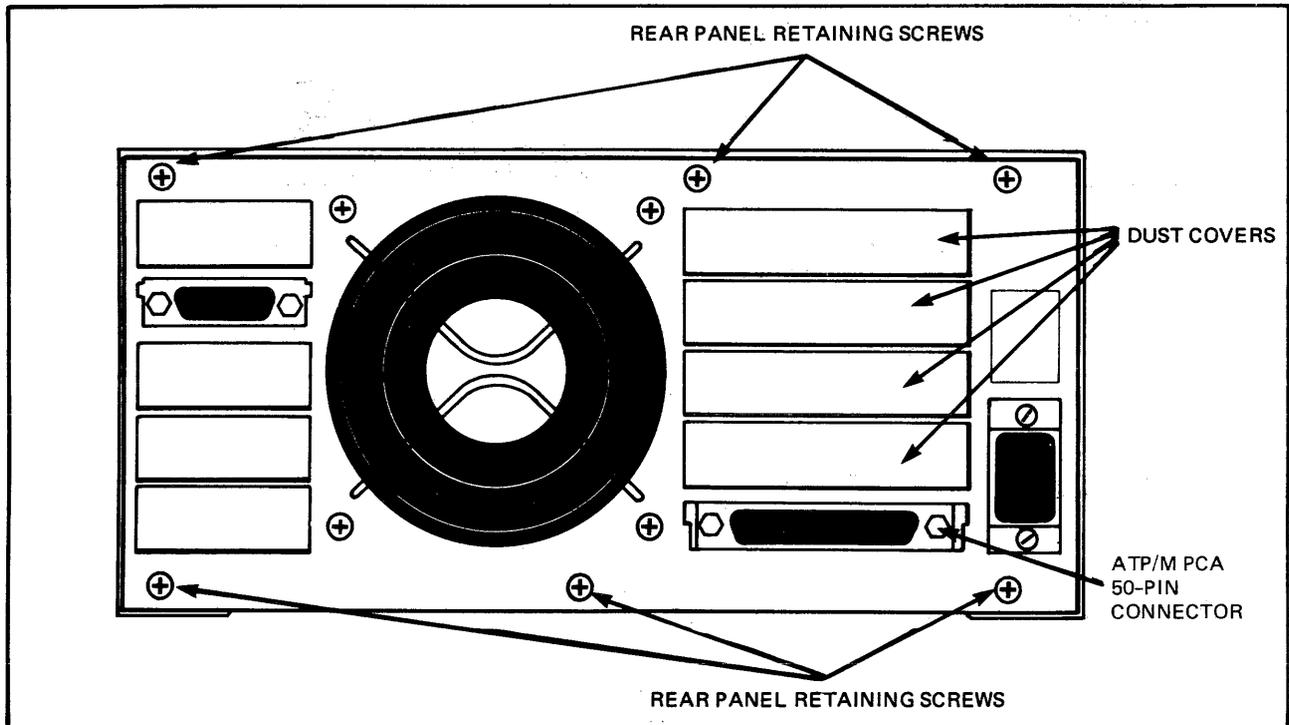

Figure 2-4 MICRO 3000XE and 3000 Series 37 SPU/Extender Rear View
- a) Refer to Figures 2-4 and 2-5.